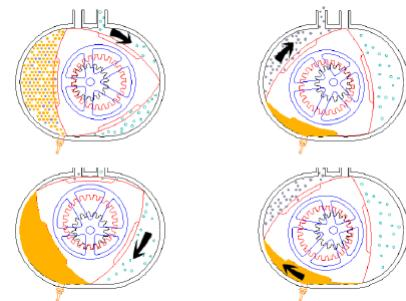

Figure 1.4
- Figure 1.4 - The third famous mechanism is known as rotary or Wankel engine. It is based on an eccentric rotary motion. The triangular rotor forms 3 combustion chambers that undergo the 4 strokes of a classical engine. So, for one rotation we have 3 power strokes. It is compact and can be operated at higher speed giving a very high power to weight ratio, is smooth and balanced. The challenges relate in the sealing of the combustion chamber, the higher heat transfer, the efficiency, and the emissions.